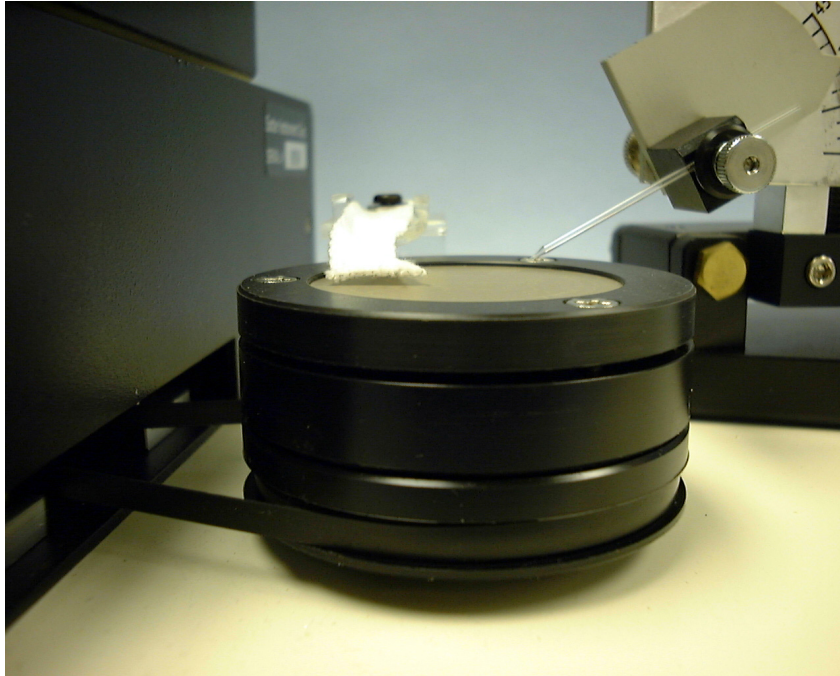

Figure 2. Pedestal/Grinding Assembly.
2. Identify the abrasive surface on the grinding plate. The top abrasive surface has a speckled finish -- it is marked with a part number. Place grinding plate between the two retaining rings with abrasive surface facing the top retaining ring as per Figure 2. Secure in place by screwing upper retaining ring to lower retaining ring. Tighten screws down until you feel a slight resistance and then turn them another 1/8 turn.